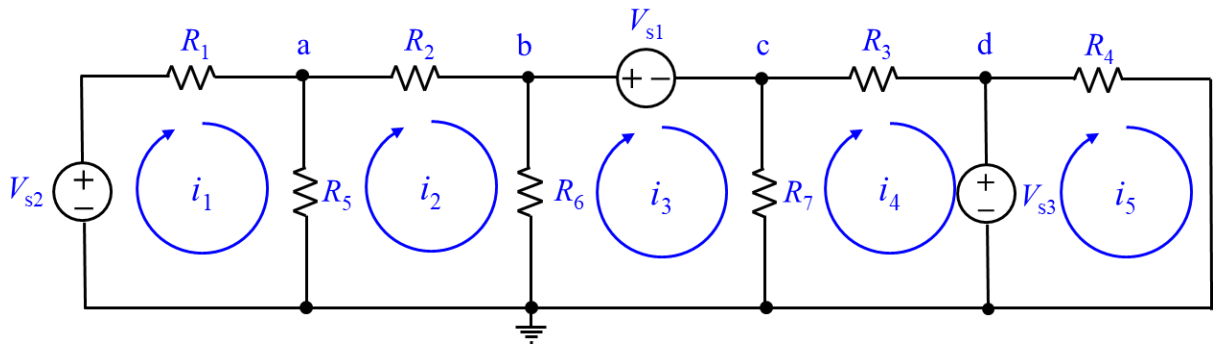

Figure 1 – Node Voltage and Mesh Current Analyses
- a. Calculate the circuit's node voltages (V_a , V_b , V_c , and V_d) in **Figure 1** using the node voltage analysis.
- b. Calculate the mesh currents (i_1 , i_2 , i_3 , i_4 , and i_5) of the circuit in **Figure 1** using the mesh current analysis. From the results of the mesh currents, calculate the node voltages (V_a , V_b , V_c , and V_d).
3. Build the circuit in **Figure 1** with $V_{s1} = 4V$, $V_{s2} = 10V$, and $V_{s3} = 12V$. Measure the node voltages, record them in **Table 3**, and compare them with the results from the node voltage analysis.